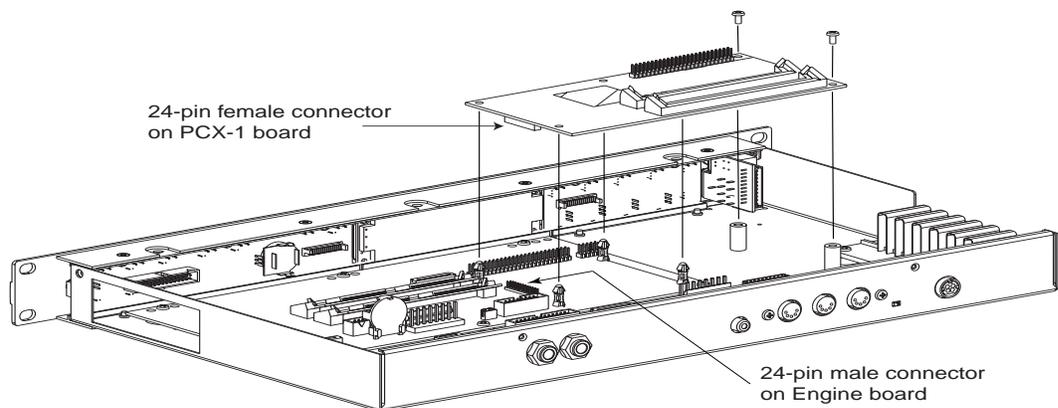

Figure 6 **Inserting the PCX-1 board**
1. Locate the Engine board (see Figure 6), and identify the four white plastic standoffs (vertical pins) that will hold the PCX-1 board in place. Also notice the 24-pin male connector on the Engine board. This will plug into the connector on the PCX-1 board.